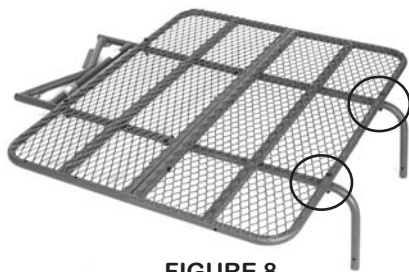

FIGURE 8
STEP 4: Flip the standing platform over so the L-leg supports (C.) are on the ground and the expanded metal standing surface is facing upward as shown in Figure 8. With the L-leg support (C.) installed onto the male ends of the v-bar assembly (B.), locate the two (2) bolt holes on the L-portion (bent portion) of the L-leg support (C.). Line these holes up with those of the standing platform (A.) and bolt together using two (2) 5/16" x 3" bolts, four (4) steel washers and two (2) locking nuts as shown in Figure 8. Once these bolts have been installed, go back and tighten all the previously installed bolts, washers and lock nuts from STEPS 1 through 4.